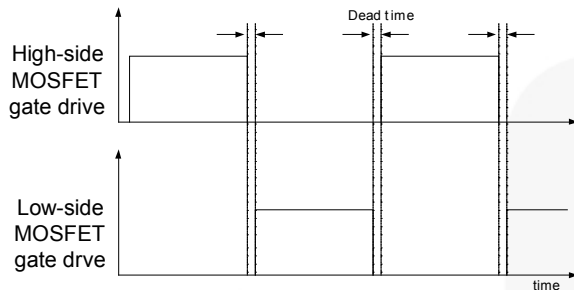

Figure 16. MOSFETs Gate Drive Signal
1. Basic Operation: FAN7621 is designed to drive high-side and low-side MOSFETs complementarily with 50% duty cycle. A fixed dead time of 350ns is introduced between consecutive transitions, as shown in Figure 16.